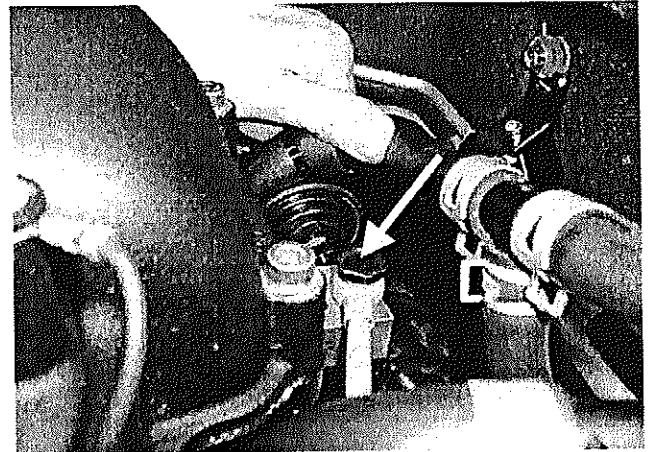

Figure 32
20. Attach the factory banjo bolt and TRD gaskets to secure the auxiliary injector fuel delivery line to the TRD fuel rail on the back side of the intake manifold (Figure 32). Leave the banjo bolt finger-tight at this time.